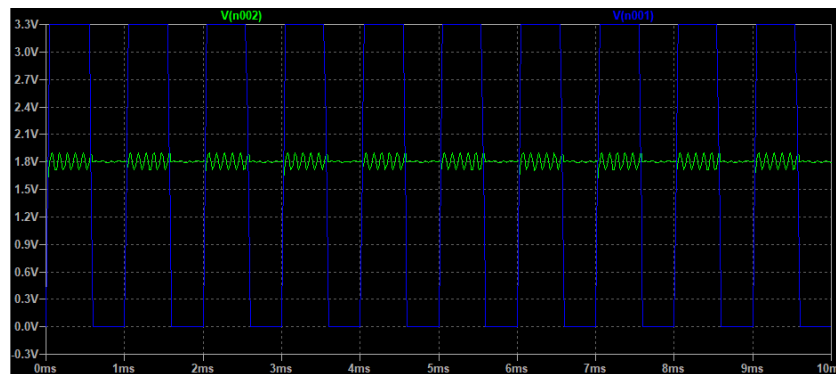

Figure 6: Transient waveforms of the amplifier circuit
5. (OPTIONAL) Run the simulation to check that the symbol does indeed work and contains the correct circuit. Fig 6 shows the transient waveforms. The amplification is triggered by "SN" being high.